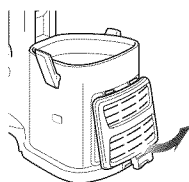

Fig. 25
- 1 Remove the filter cover from the front of the vacuum by pulling up on the tab and pulling the cover away from the vacuum. (Fig. 25)